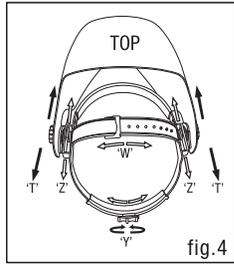

fig.4
The overall circumference of the headgear can be made larger or smaller by rotating the knob on the back of the headgear. (See adjustment "Y" in fig.4). This can be done while wearing the helmet and allows just the right tension to be set to keep the helmet firmly on the head without it being too tight.
If the headgear is riding too high or too low on your head, adjust the strap which passes over the top of your head. To do this release the end of the band by pushing the locking pin out of the hole in the band. Slide the two portions of the band to a greater or lesser width as required and push the locking pin through the nearest hole. (See adjustment "W" in fig.4).
Step 1: Undo the block nut (See "T" in fig.4) to adjust the distance between the helmet and your face in the down position.